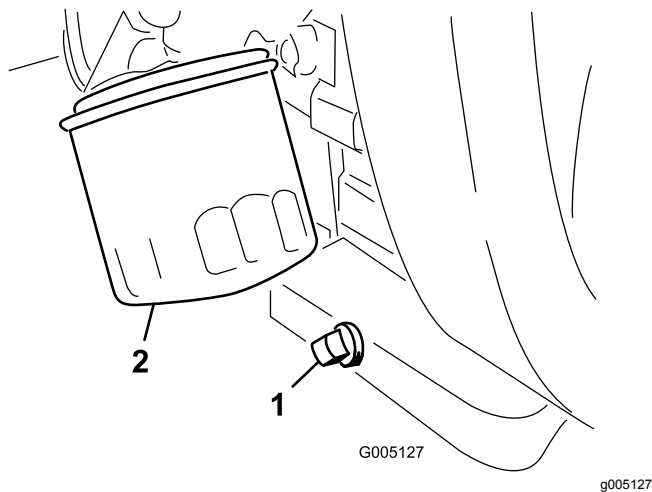

Figure 38
1. Remove the drain plug (Figure 38) and let the oil flow into a drain pan.
2. Clean the threads of the drain plug, apply PTFE sealant, and install the drain plug (Figure 38).
3. Remove the oil filter (Figure 38).